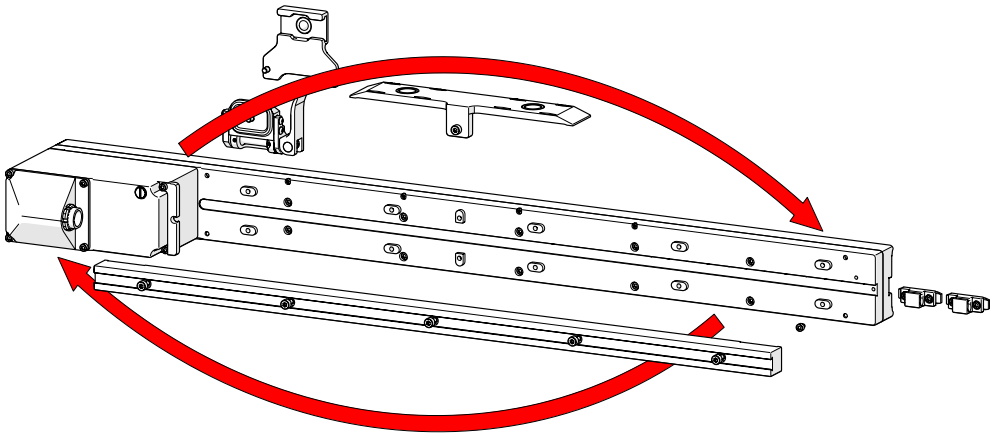

Fig. 149 - Slide cable clips from the raster arm
8. Rotate the orientation of the raster arm (Fig. 149).